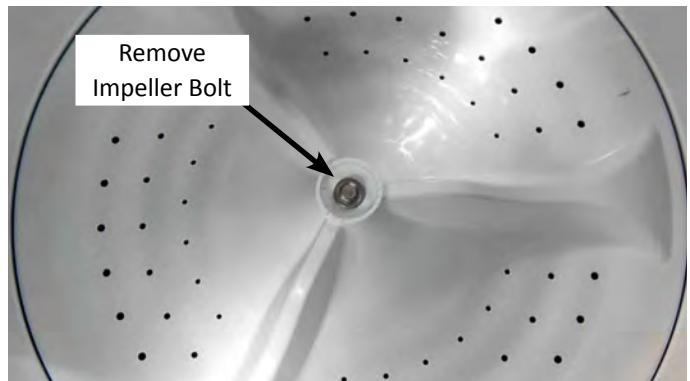

Figure 3
2. Remove the 7/16" hex-head bolt from the impeller, then lift and remove the impeller from the basket (see Figure 3).